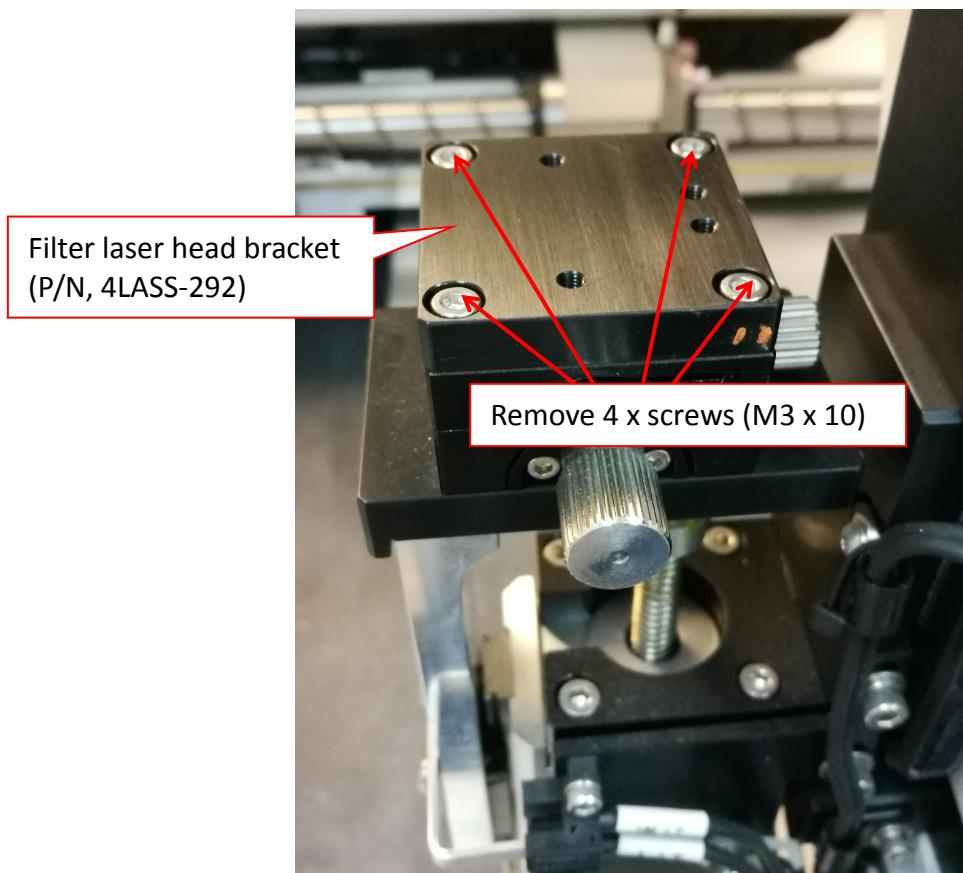

Figure 26 Filter laser head bracket removal
5. Remove 4 x screws (SHSC M3 x 10) & filter laser head bracket (P/N, 4LASS-292) as shown in Figure 26.